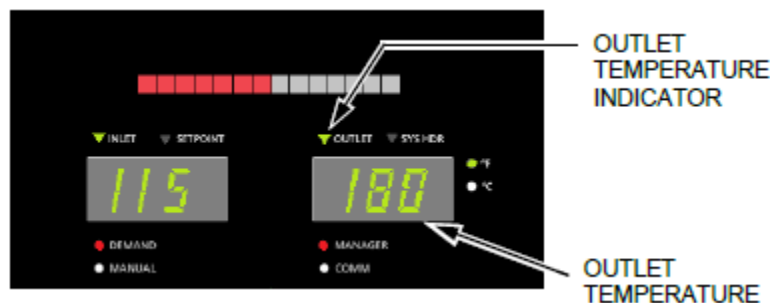

Figure 6-6: Edge Controller Front Face
- b. Use the **Down** arrow to lower the setting to a temperature **below** the Outlet temperature displayed on the Controller's front face (see Figure 6-6).